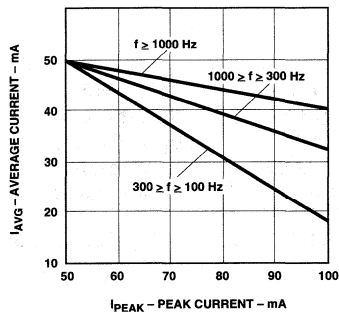

Figure 6. Time Average Current vs. Peak Forward Current as a Function of Pulsed Refresh Rate,  $f$  (Hz).
2. Refer to Figure 6 to establish pulsed operating conditions.